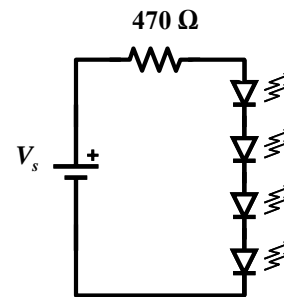

Figure 1-10 – LEDs in series
- Naturally you can cascade LEDs in series too, they just have a larger threshold voltage and often need a specific minimum current for good visibility. In the circuit of Figure 1-10, what supply voltage is required to keep the devices biased at  $\sim 15mA$ ? Build the circuit to verify your prediction.